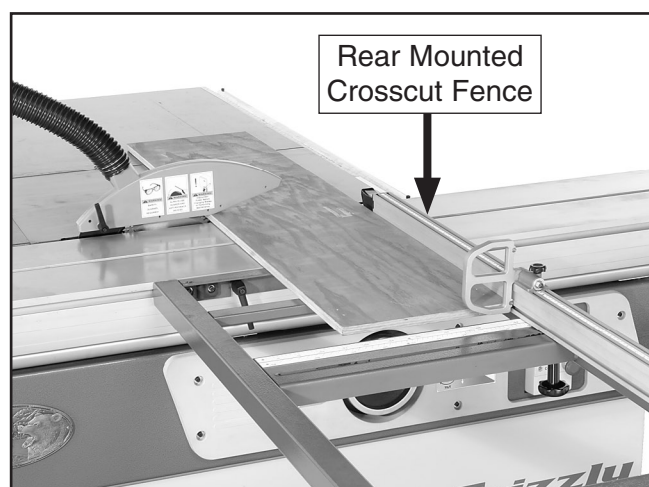

Figure 58. Typical crosscutting operation with the crosscut fence in the rear position.
Mounting the crosscut fence in the rear position (**Figure 58**) gives greater stability for crosscutting smaller panels.
4. Load the workpiece onto the table saw. The setup should look similar to **Figure 58**.